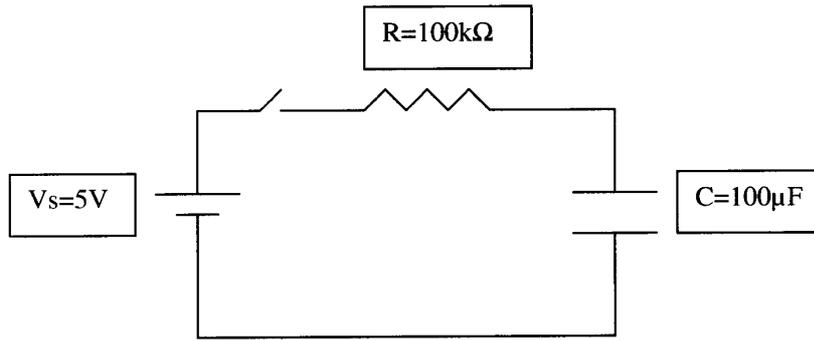

Figure 15.2:
1. Connect the circuit shown in Figure 15.2 using a $100k\Omega$ resistor and a $100\mu F$ capacitor. Use one of the spring clips as a "switch". Keeping the switch at open position, turn on the power supply and set its output voltage to $5V$. Connect the Multimeter to the circuit which reads the voltage across the capacitor.